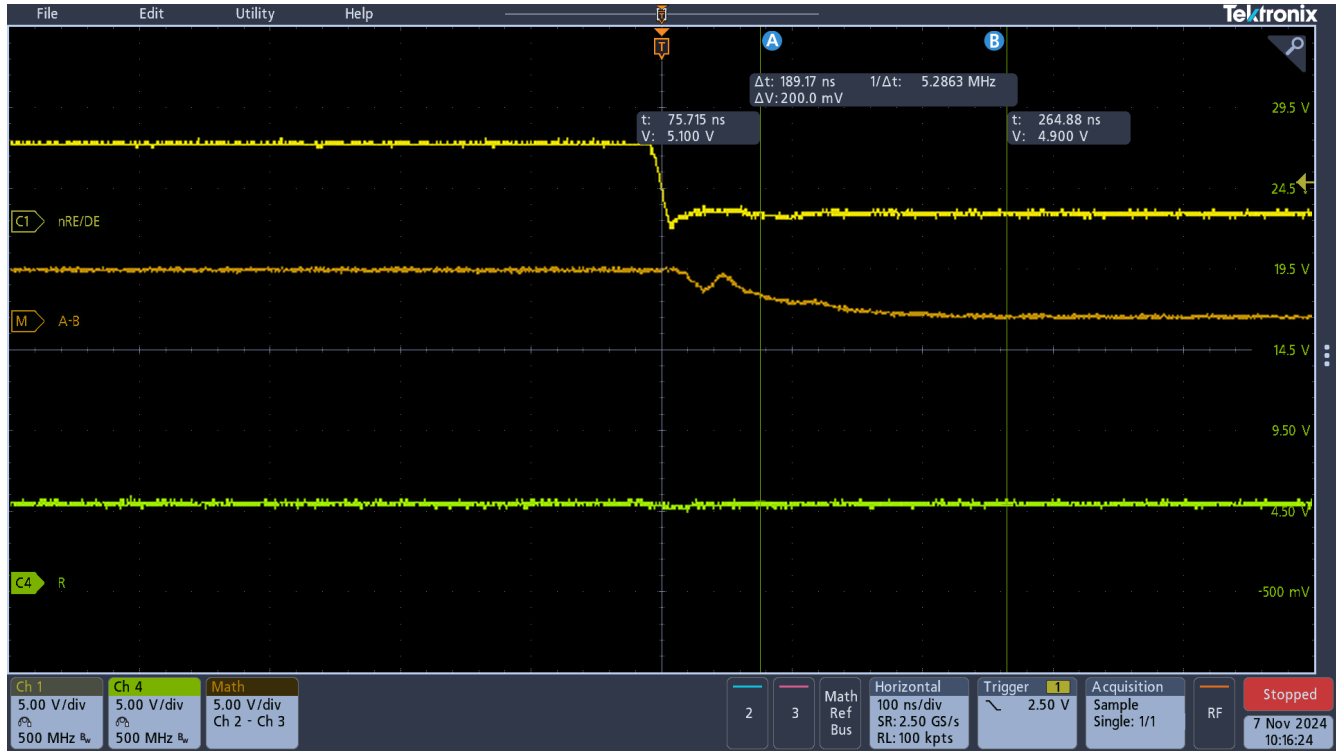
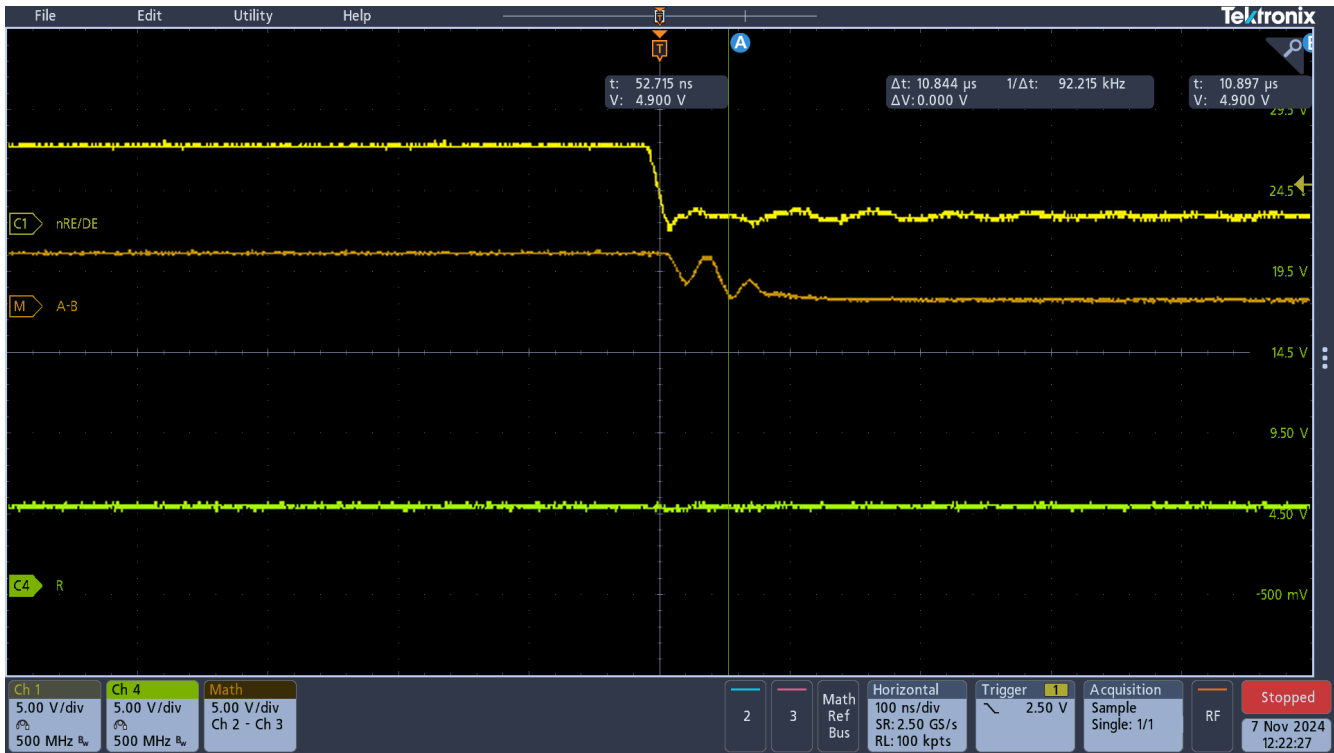

Figure 10-1. THVD1400 1000pF TXD High
Figure 10-2. THVD2410 1000pF TXD High
- The main workaround is to end the last transmission with a voltage high on the TXD line. This eliminates the voltage drop on the RXD line. Across the various tests discussed previously, a voltage low was simulated on the TXD line with 0V. When the TXD line is held at a voltage high, there is no voltage drop present as seen for both THVD1400 and THVD2410 in Figure 10-1 and Figure 10-2.